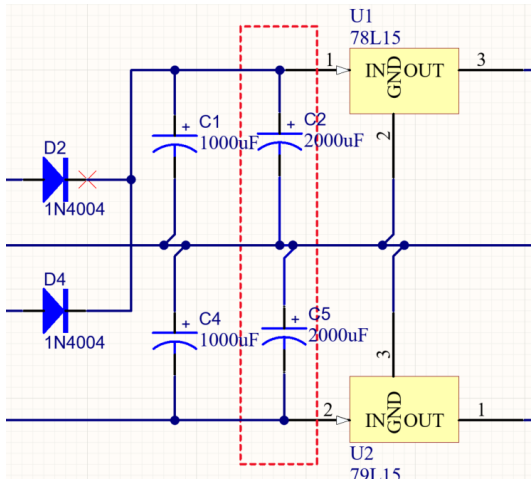

Figure 10. Delete components C2 and C5 on the schematic
30. From the *Editor* tab of the schematic, delete components C2 and C5 in the red dashed enclosure as shown in Figure 10. We will be looking at Alternate Components moving forward and we will no longer need these components.